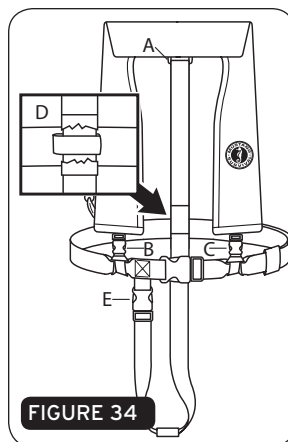

FIGURE 34
1. Lay out the MA3090 harness assembly as shown (Figure 34):
3. Locate the T-tab junction buckle at the top of the crotch strap and thread through the lower back chest belt loop D. Secure the T-tab with the snap, and turn the snapped portion so it is positioned inside the chest belt loop away from the body (Figure 34).